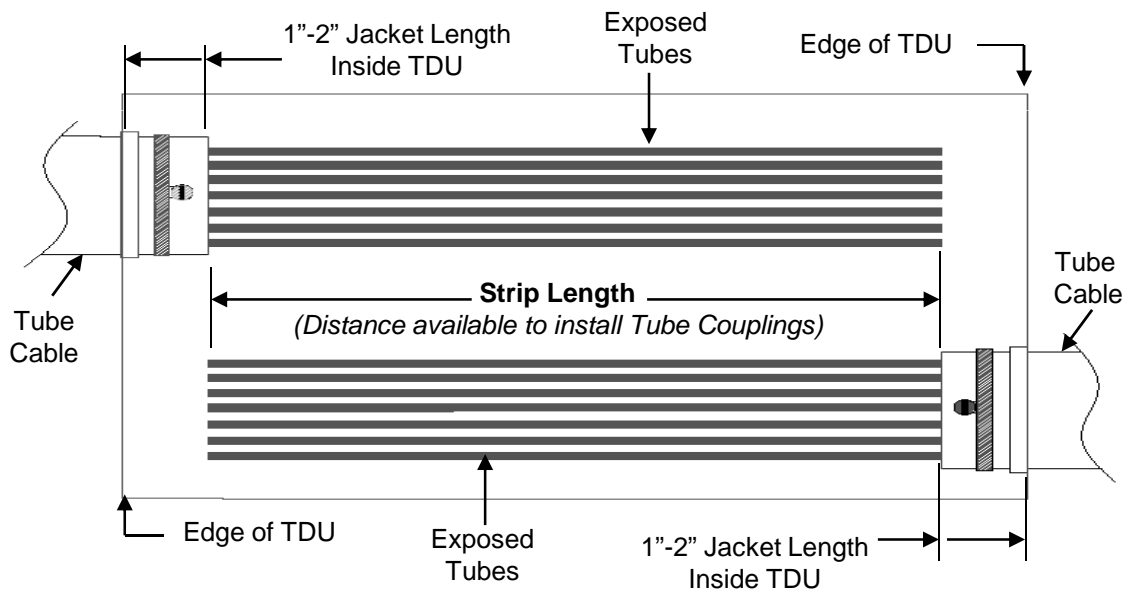

Figure 3
7.2 Allow at least 1”-2” of outer jacketing material on both tube cables to be left inside TDU. Mark each jacket. **See Fig. 3.**